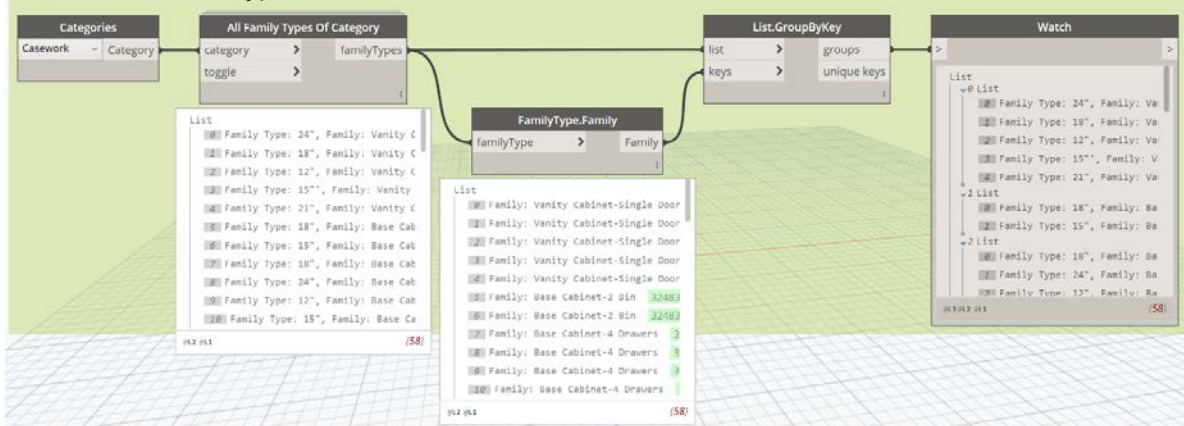

Figure 47
17. Select all the nodes onscreen and group them. Edit the name (see Figure 47).